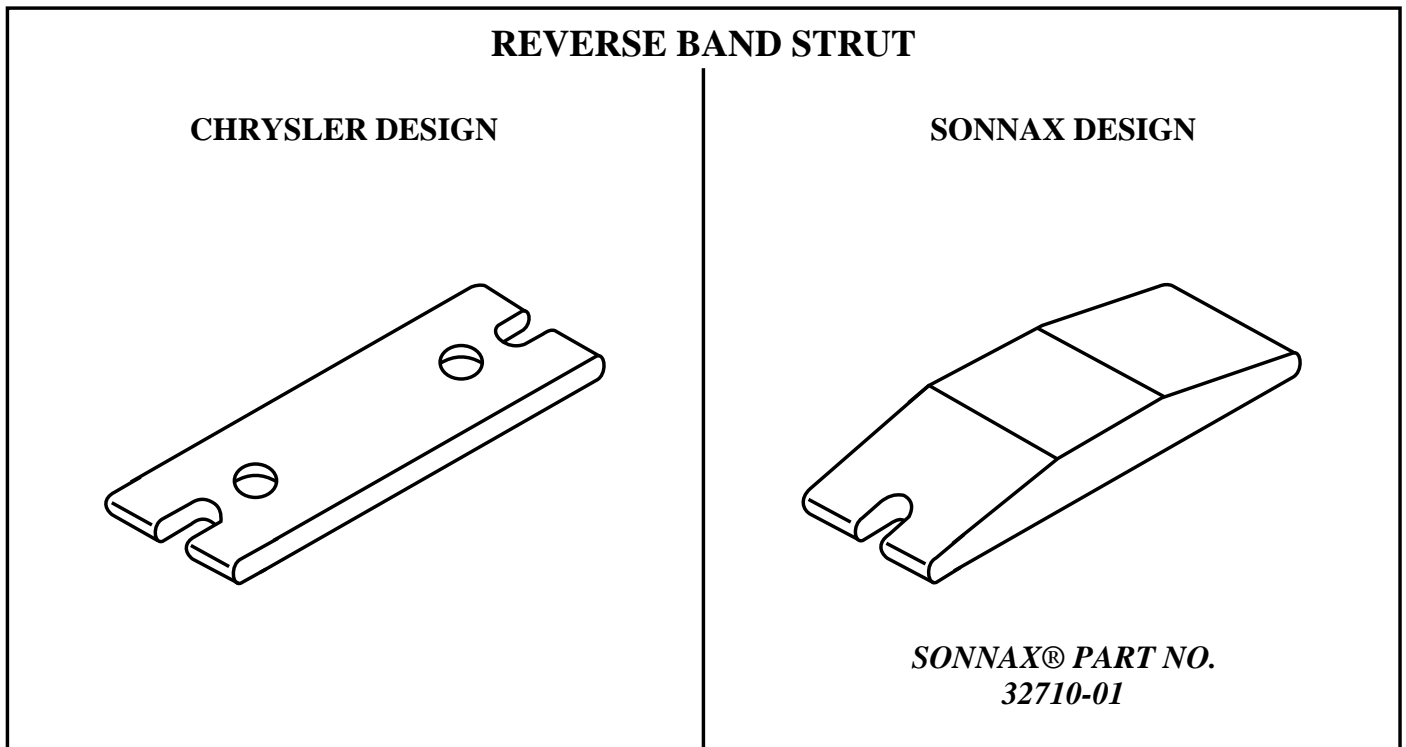

Figure 264
**CAUSE:** The cause may be, a bent or broken reverse band strut (See Figure 264).
**CORRECTION:** There is now a new design reverse band strut available from Aftermarket Suppliers for the Chrysler A404 Series transaxle, that has a thicker cross-section in the middle to provide much greater resistance to bending, and is manufactured out of a high quality hardened alloy steel that has a much higher yield strength than the original equipment material. This new design reverse band strut is manufactured by Sonnax®, and is available under Sonnax® part number 32710-01 (See Figure 264).